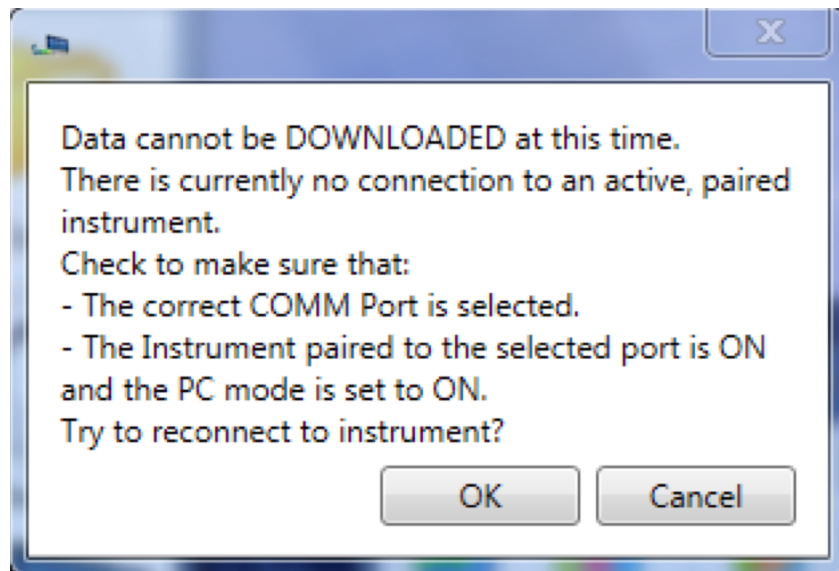

Figure 63
**EXAMPLE:** The user clicks the Assign Name button in the Function Tool Bar while the currently paired and connected Ultrameter is asleep. The following message will appear (Figure 63):